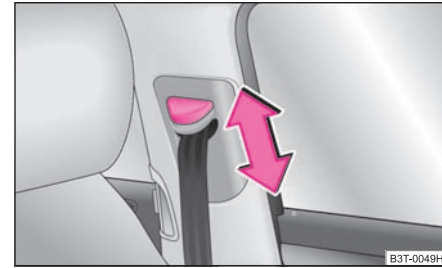

Fig. 152 Front seat: Seat belt height adjuster
- Move the height adjuster in the desired direction up or down ⇒ fig. 152.